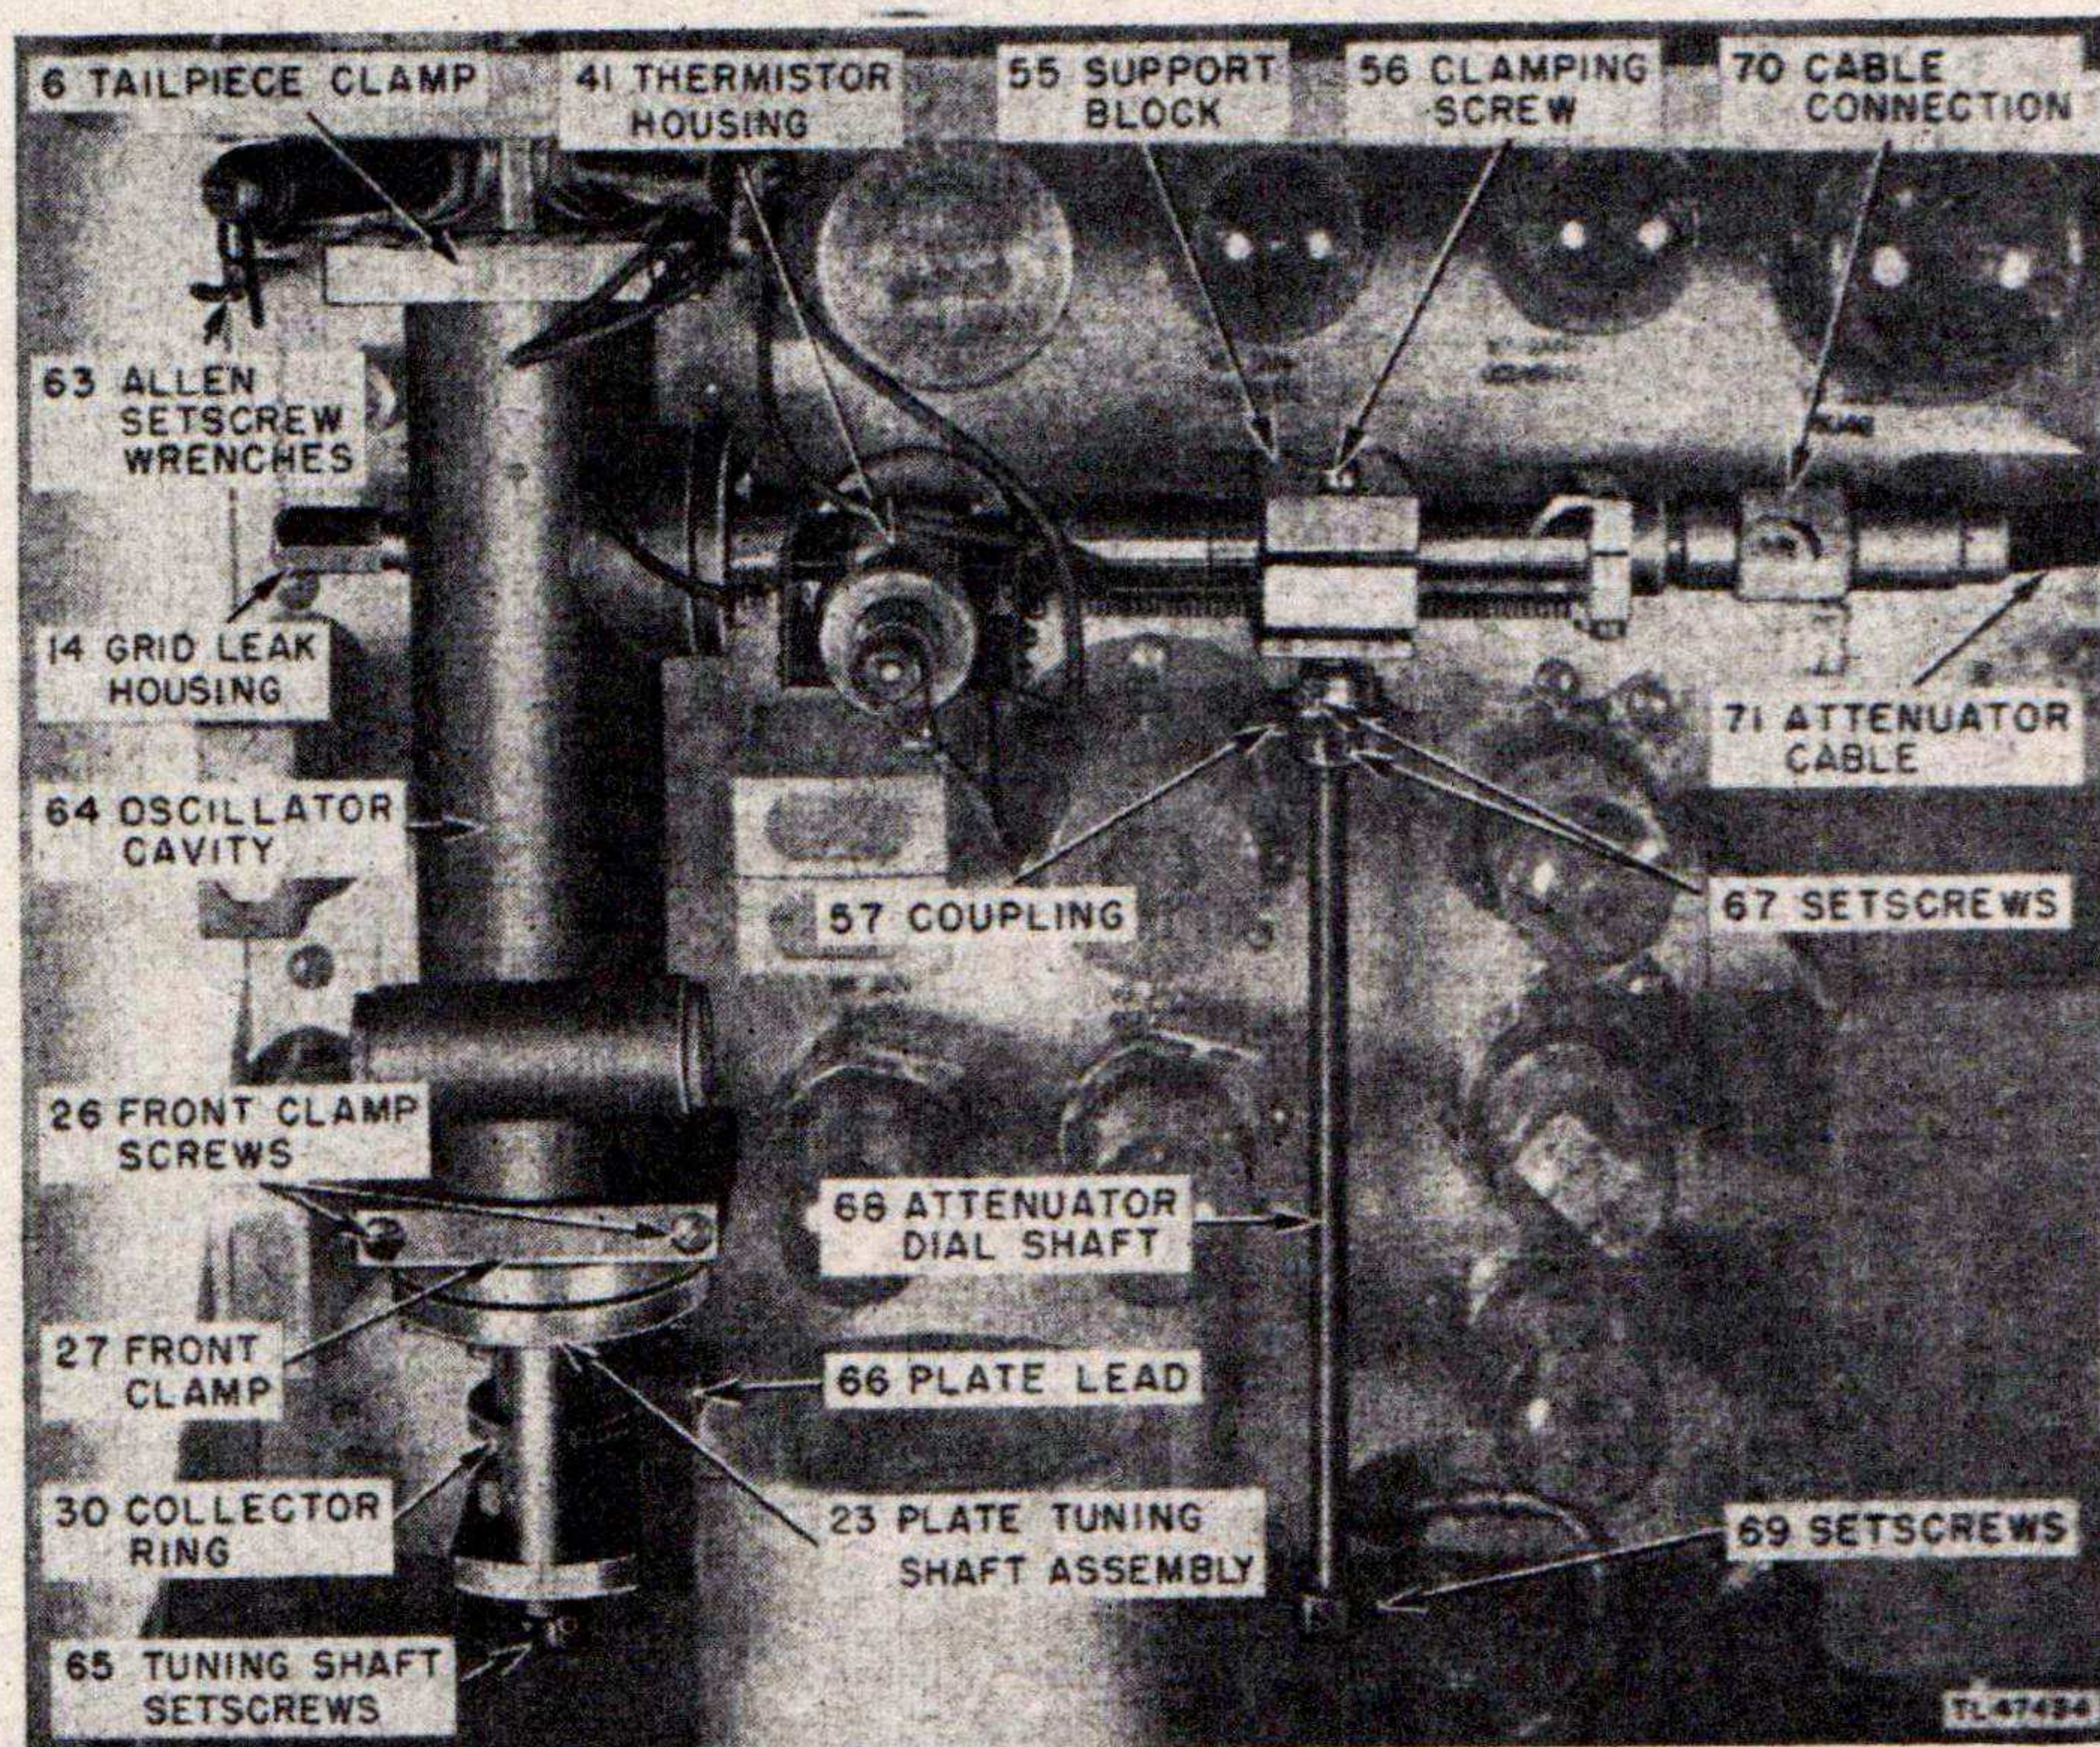

Figure 37.—Oscillator assembly mounted on signal generator chassis.
#### 44.5. DISASSEMBLY OF CAVITY (figs. 37 to 41). (Added.)
(1) The cavity should not be disassembled except for replacement of the r-f oscillator tube (8) or the thermistors (42, 43). Instructions for these replacement procedures are contained in paragraphs 43b and 43c. By looking into the cavity when the tailpiece (2) is removed, it is possible to observe the condition of the plate cap fingers (17) and of that portion of the plate tuning shaft on which the inner ring of fingers of the plunger slides.
**CAUTION:** If the tailpiece (2) is to be removed and replaced, the grid leak housing (14) must first be unthreaded and removed; otherwise, the grid leak sleeve assembly will be damaged.
(2) If the cavity is defective, it should be returned to the factory. Emergency conditions, however, may necessitate repairs at a repair base. The following instructions are therefore supplied. These instructions apply to the "PR" type cavity. Refer to paragraph 43a for the structural differences between the "PR" and the "AO" type cavities.
(3) Read paragraphs 31 and 32 for a description of the cavity and associated parts. Refer to figures 37 through 41 for removal of the oscillator cavity and associated assemblies.
(4) The following is a key to figures 37 to 41, inclusive: